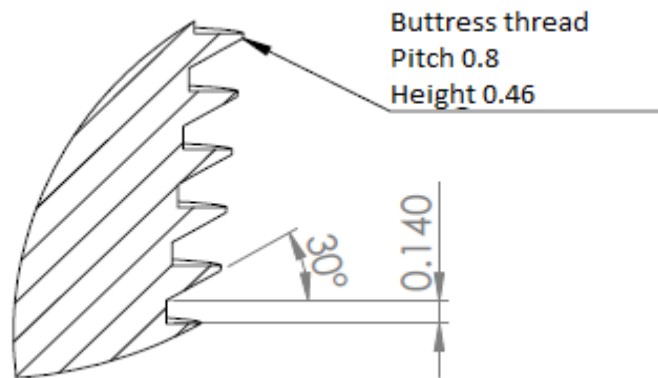

Fig. 7 Schematic diagram of Buttress screw thread dimension
**5. Buttress thread (fig.7)**